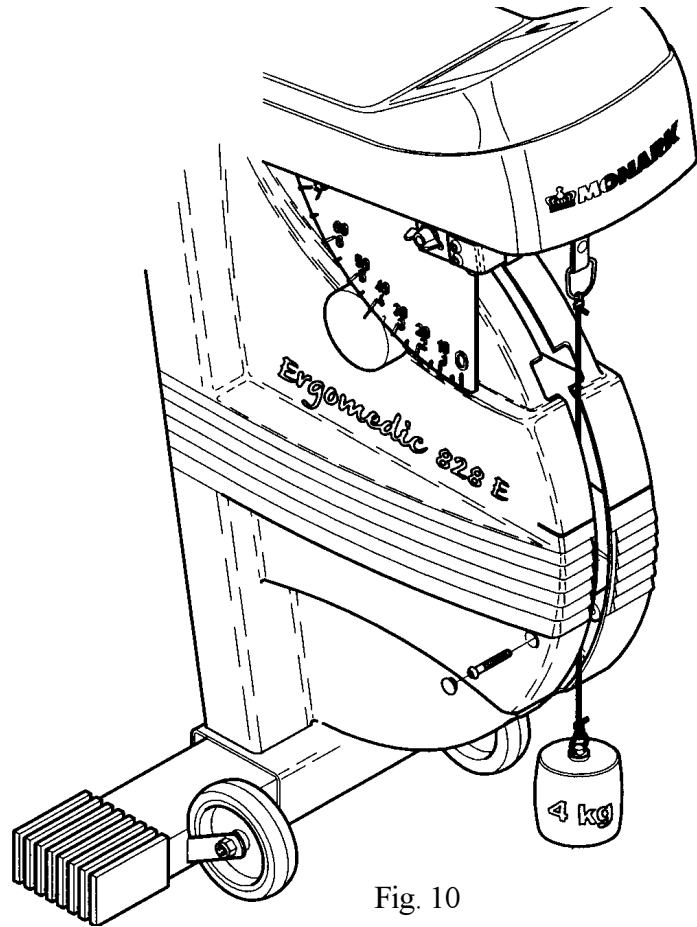

Fig. 10
5. When correctly set, it should be possible to read this weight from the corresponding place on the meter board. See fig 10.
Loosen the tension device to min. load. Adjust the brake belt so that resistance increases as soon as a the tension device is turned a little. See fig. 10.